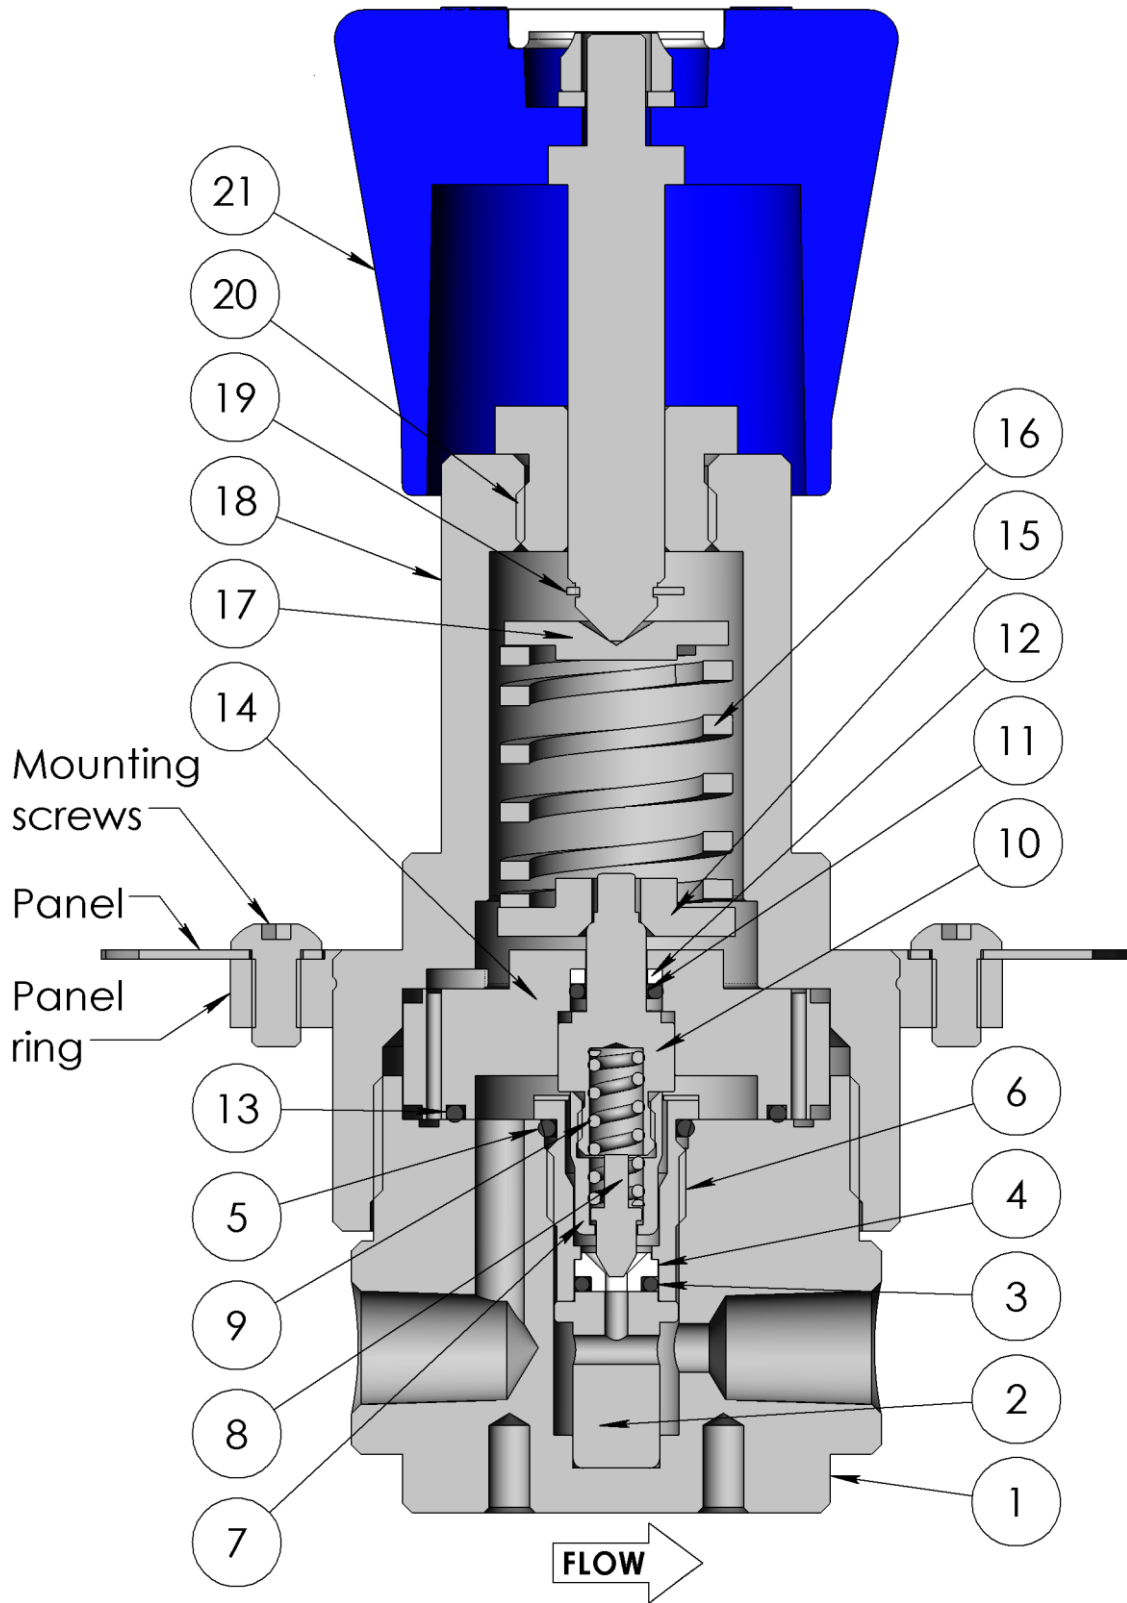

Fig 3
1. Secure the body (1) in a vise, holding on the flats.
2. Insert the seat retainer (2) into the body (1).
3. Fit the body plug O-ring (5) onto the body plug (6).
4. Insert the seat (4) and seat O-ring (3) into the body plug (6). Ensure the seat (4) is oriented correctly per Fig 3.
5. Lightly lubricate the body plug threads (6) then fit the body plug (6) into the body (1). Torque to 22 lbf-ft (30 N·m).
6. Lightly lubricate the piston threads (10).
7. Insert the overtravel spring (9) and poppet (8) into the piston (10) then secure with the piston screw (7). Torque to 3.5 lbf-ft (5 N·m).
8. Fit the piston O-ring (11) and, if present, piston back up ring (12) either onto the piston (10) or into the piston plate (14). Ensure their orientation is correct per Fig 3.
9. Lightly lubricate the piston O-ring (11) then insert the piston assembly into the piston plate (14).
10. Fit the inner piston plate O-ring (13) onto the piston plate (14) and insert the sensing assembly into the body (1).
11. Lightly lubricate the knob assembly stem (21) then insert it into the spring housing cover (20).
12. Secure the C-ring (19) onto the groove at the end of the stem (21).
13. Lubricate the recess of the spring guide (17) then stack the bottom spring guide (15), set spring (16), and spring guide (17) onto the piston (10).
14. Lightly lubricate the spring housing thread (18) then fit it onto the body (1). Torque to 52 lbf-ft (70 N·m).